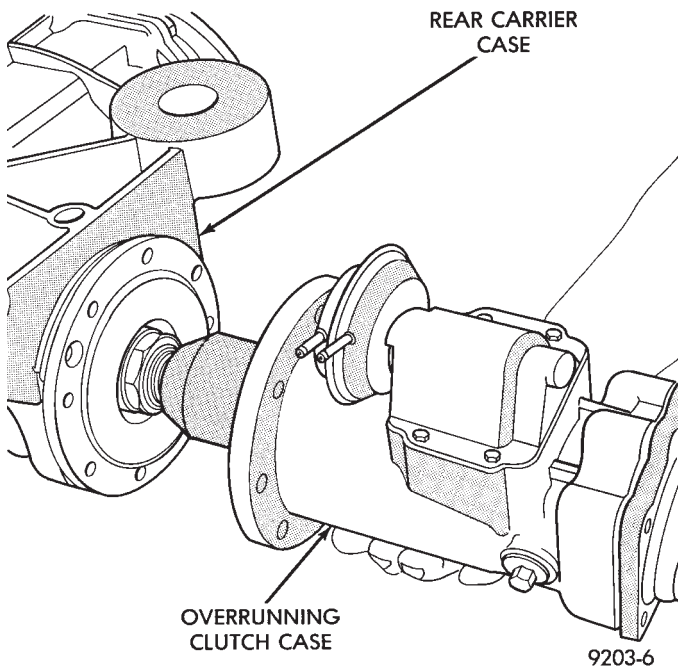

Fig. 7 Separate Rear Carrier Case from Overrunning Clutch Case
(4) Separate rear carrier case from overrunning clutch case (Fig. 7).